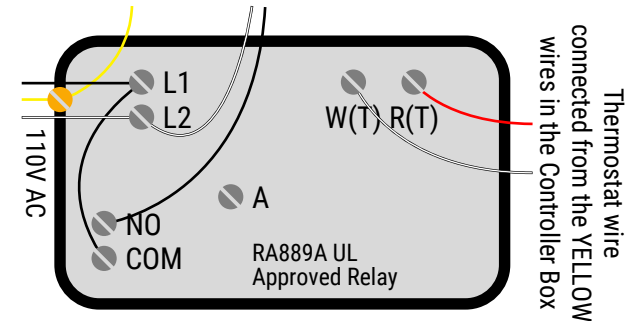

Fig. 21
- **Single Fixture Connection (Fig. 21):**